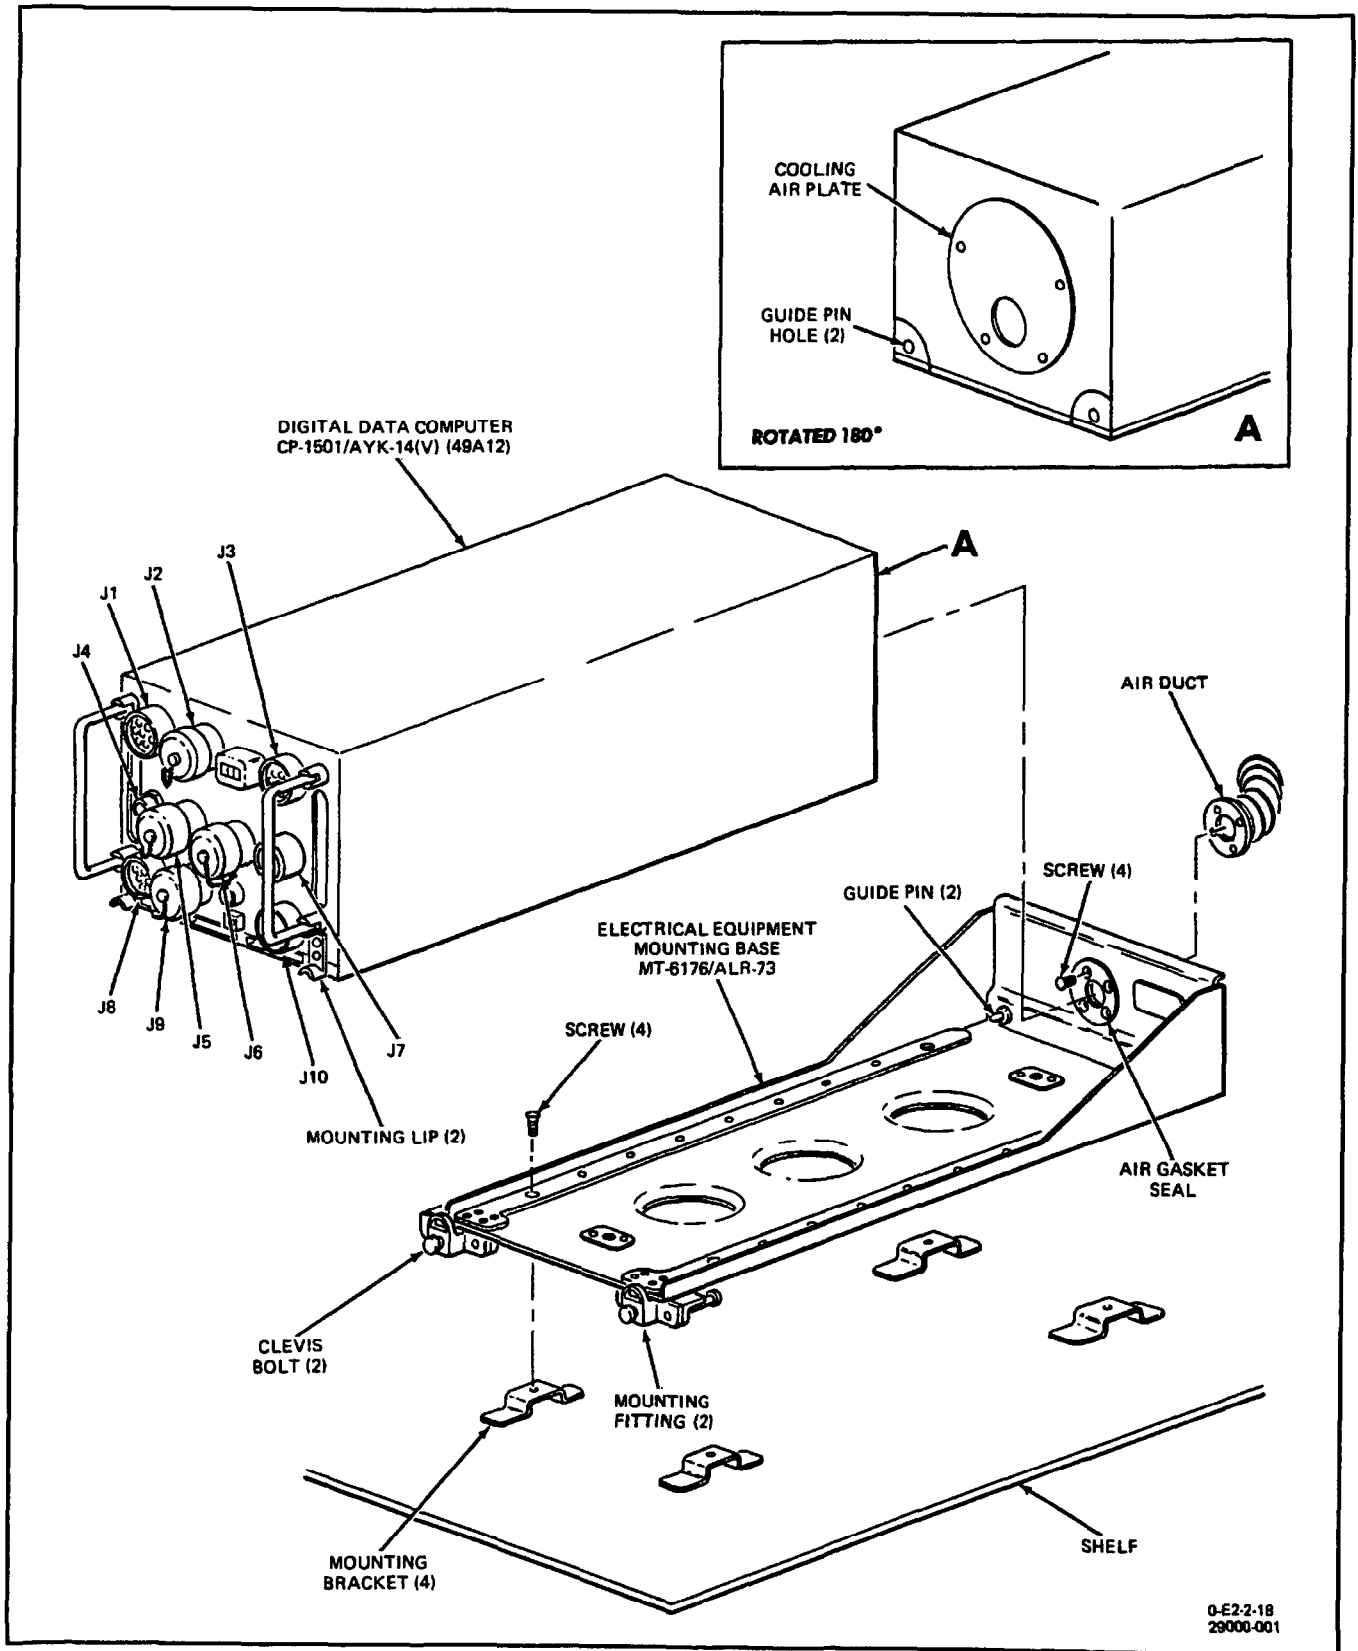

Figure 1. Removal and Installation of Digital Data Computer CP-1501/AYK-14(V) and Electrical Equipment Mounting Base MT-6176/ALR-73
7. REMOVAL. (Figure 1.)
8. INSTALLATION. (Figure 1.)